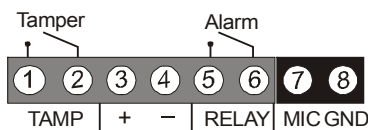

Figure 1: Terminal Block
7. **Connect the wires** to the terminal block as shown in Figure 1.